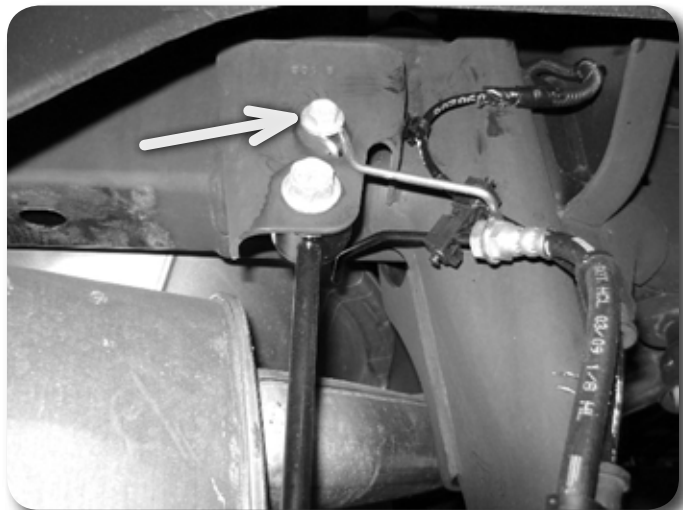

Figure 24
74. Disconnect brake line brackets from the outside of the frame rails. Remove the ABS wires from the retaining clips. **Figure 24**